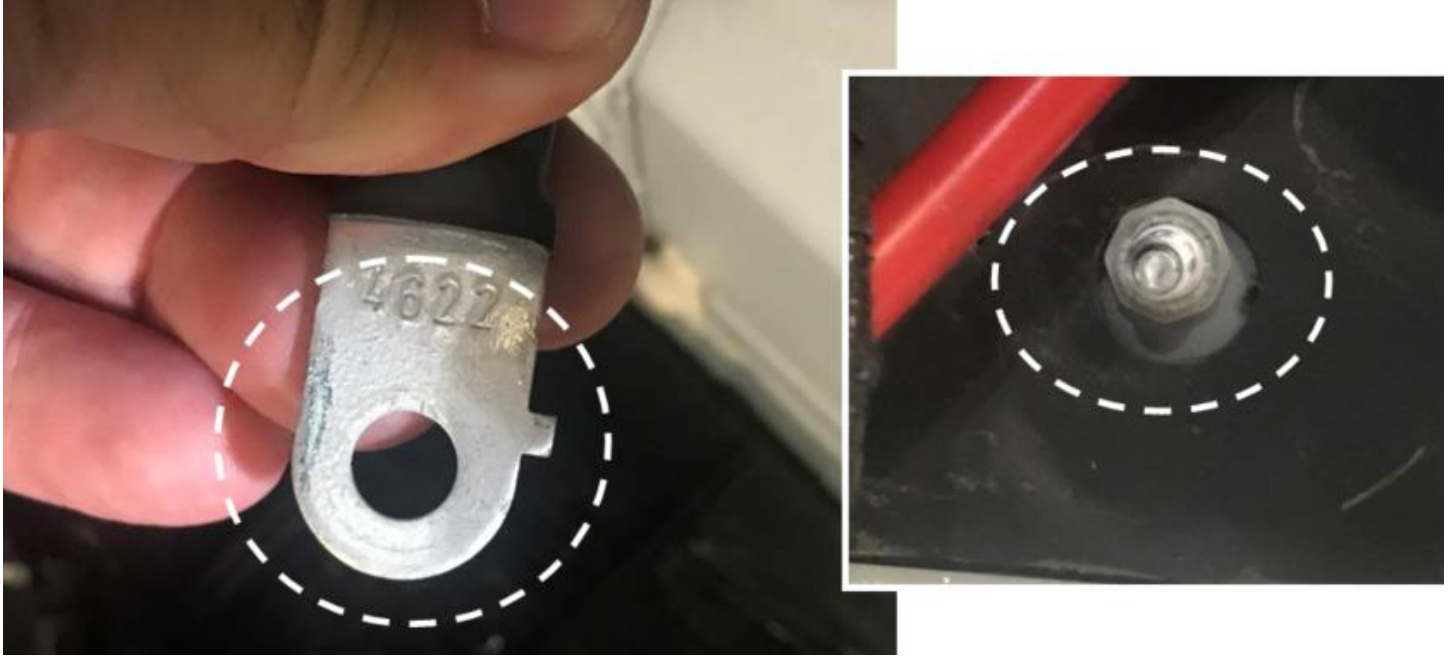

Figure 3
4. Check contact surfaces at lug of ground line and weld stud for damage (**Figure 3**).